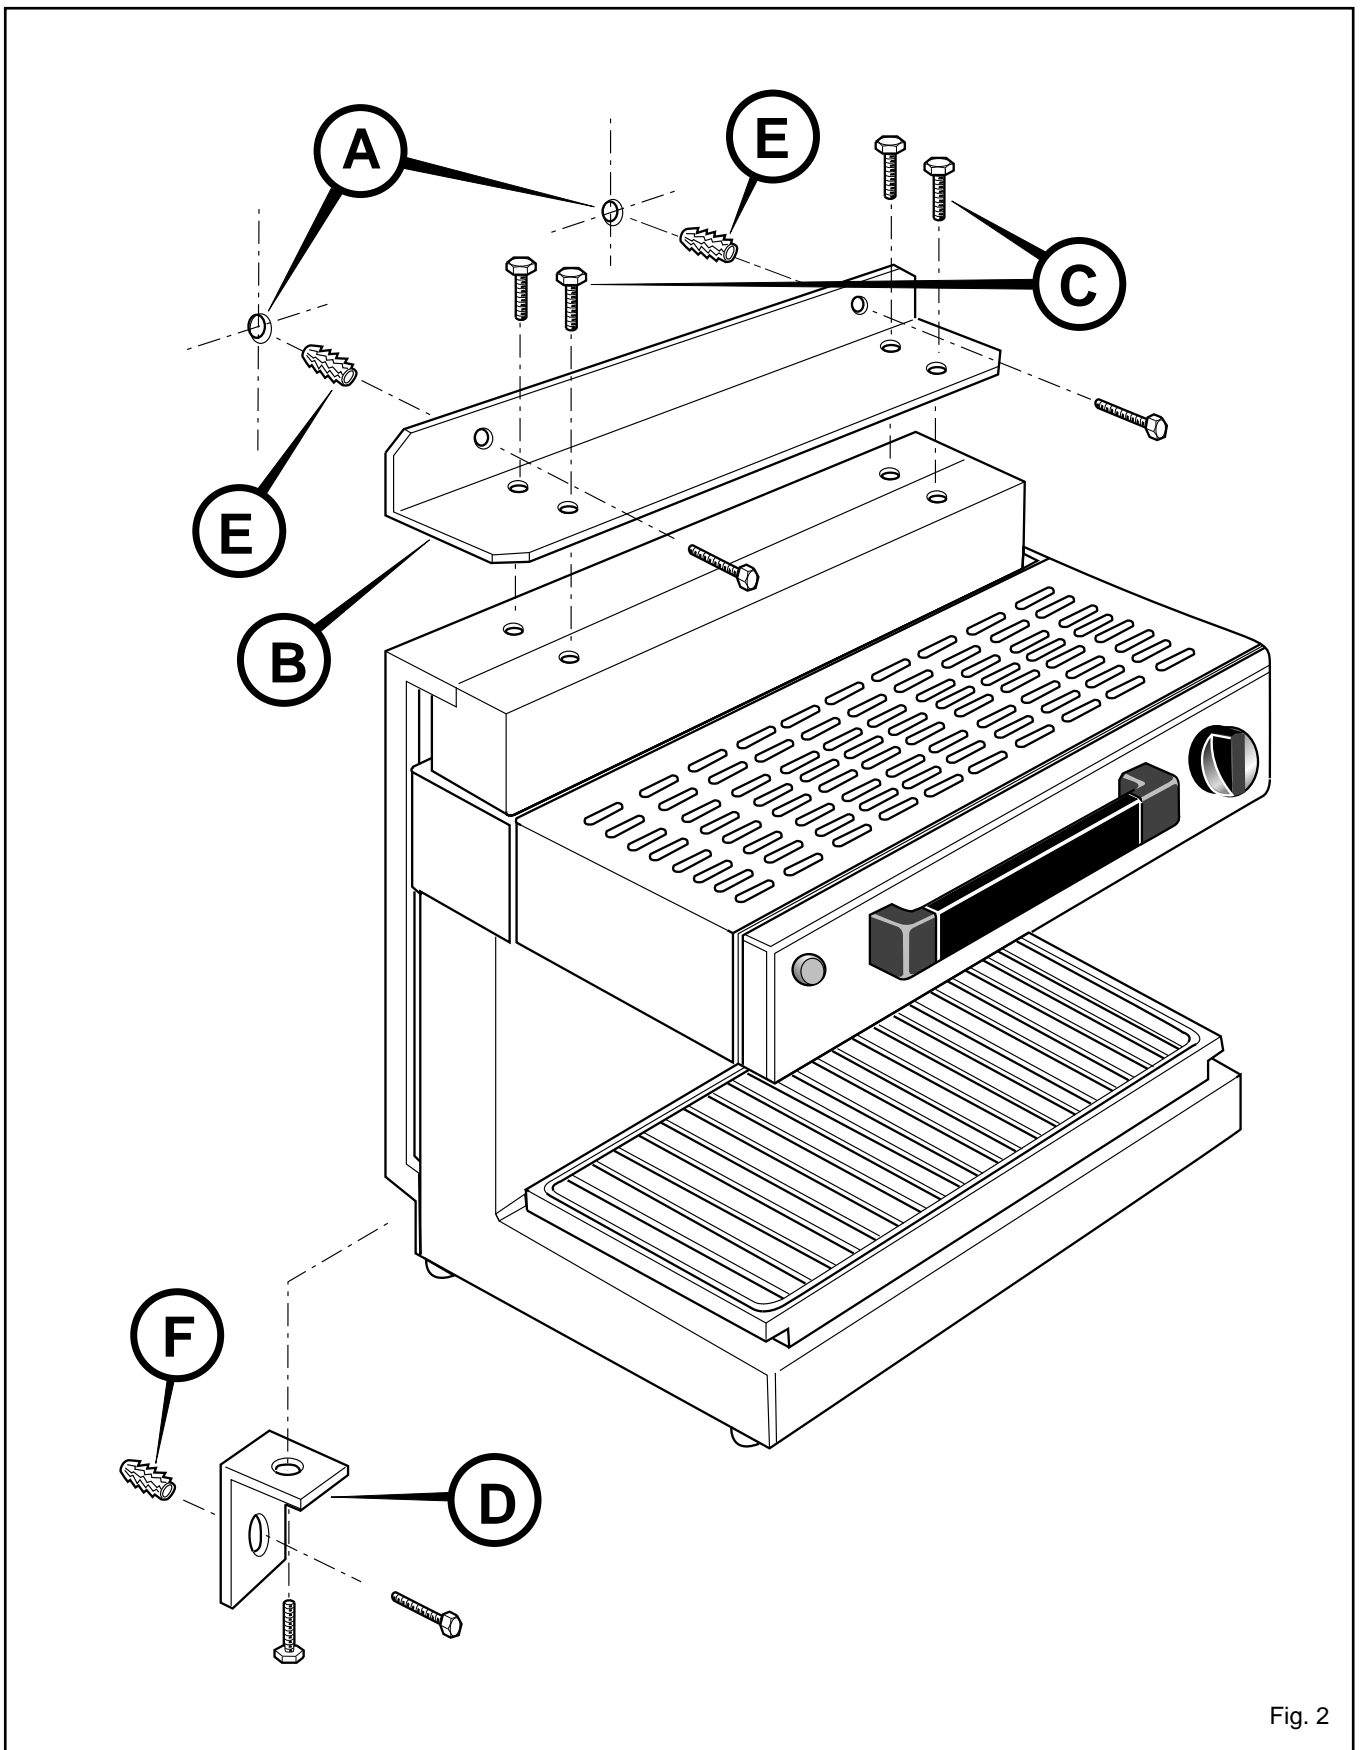

Fig. 2
2.4 WALL INSTALLATION (fig. 2)